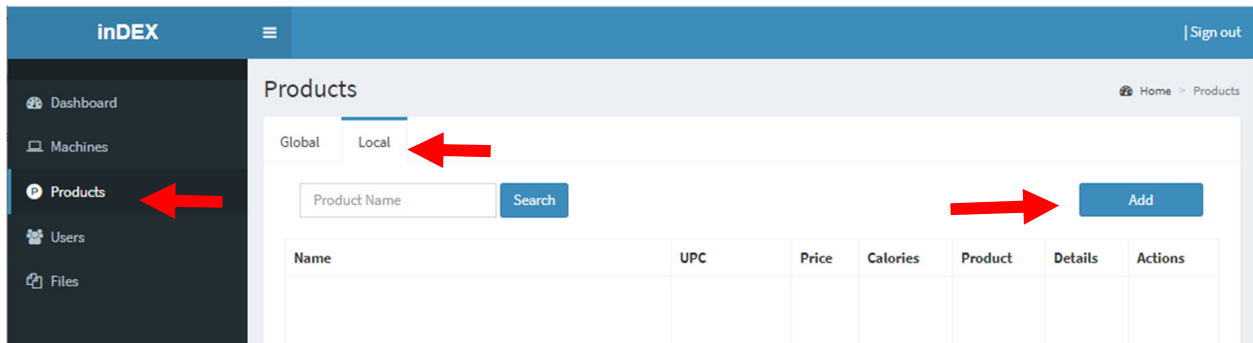

Figure 27
- Click the **Local** tab to get to your local database and then click the **Add** button (figure 27 & 28).